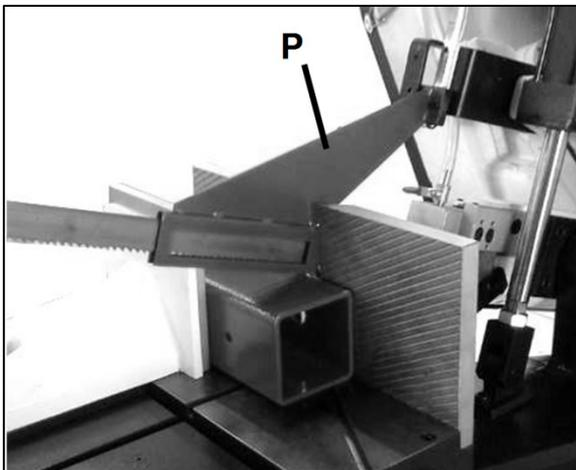
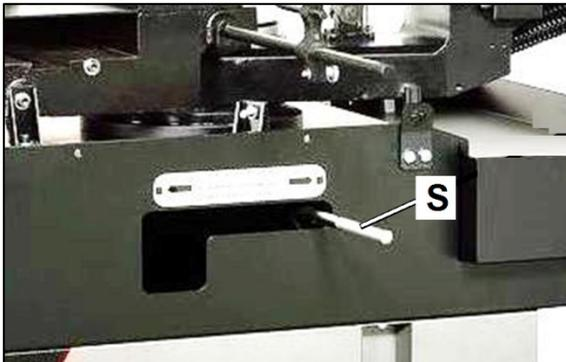

Figure 7-4: Material Feeler
Figure 8-1: Mitre Cutting Adjustment
- Use switch (K) to raise the saw bow.
- Move the material feeler (P, Fig 7-4) up to the top.
2. Turn operating mode (D) to “Manual”
3. Select (K) to lift saw bow to the top. Then move the material feeler (P, Fig 7-4) up to the top.
4. Use switch (L) to open the vise.
2. Press button (E) to start the hydraulic pump.
3. Use switch (D) to select manual mode
4. Use switch (K) to raise the saw bow.
5. Move the material feeler (P, Fig 7-4) up to the top.
6. Switch off Main power (A).
7. Un-clamp saw bow, by rotating the lock lever (S, Fig 8-1) to the left.